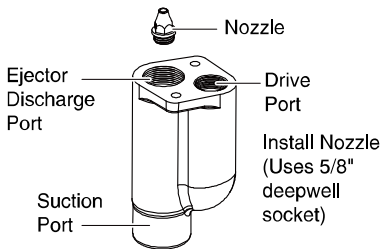

Figure 3
3. Use a 5/8 in. deep-well socket to install the new nozzle in the top (double port) of the ejector body (See Figure 3). The nozzle screws into the third set of threads visible inside the ejector discharge port (the larger port) in the ejector body.